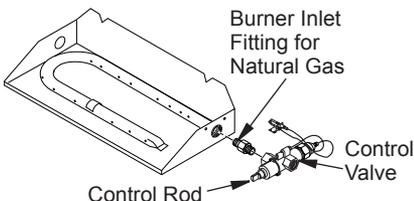
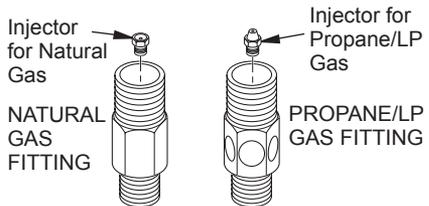

Figure 8 - Remove Burner Inlet Fitting
Figure 9 - Burner Inlet Fittings with Injectors
4. Using a wrench, remove gas control valve and burner inlet fitting by turning counter-clockwise (see Figure 8).
5. Remove burner inlet fitting from gas control assembly (see Figure 8). DO NOT remove orifice from this fitting. Propane/LP burner inlet fitting is included in hardware kit (see Figure 9).
7. Using thread sealant (resistant to the action of propane/LP gas) on smaller end of fitting, screw burner inlet fitting into outlet side of gas control (see Figure 8). Tighten using a wrench.
8. Thread gas control valve and burner inlet fitting into burner manifold (see Figure 8). Use thread sealant on male threads of burner inlet fitting. Secure with a wrench. Make sure control rod is facing the front (see Figure 8).